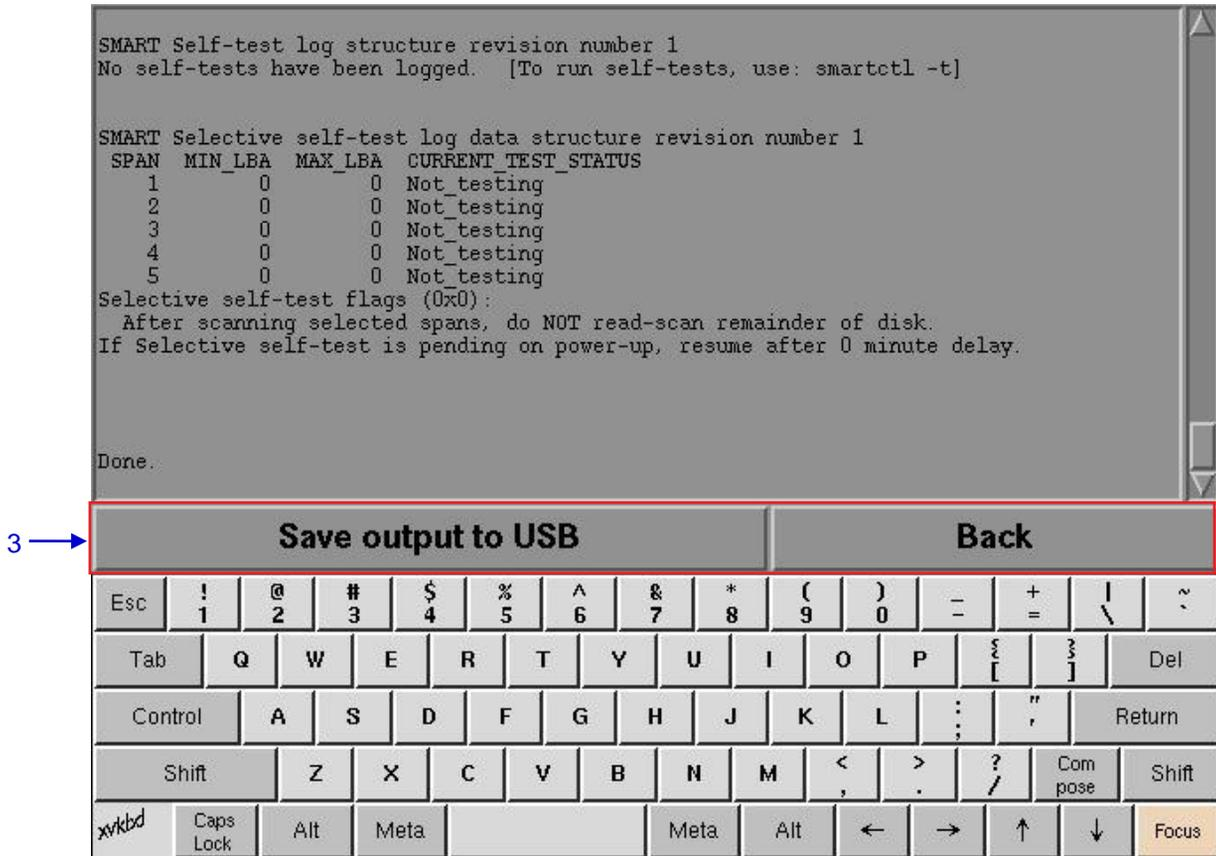

Figure 89 List of information for selected hard disk.
- 3 A new window will show the information for the selected disk as seen in **Figure 89**.